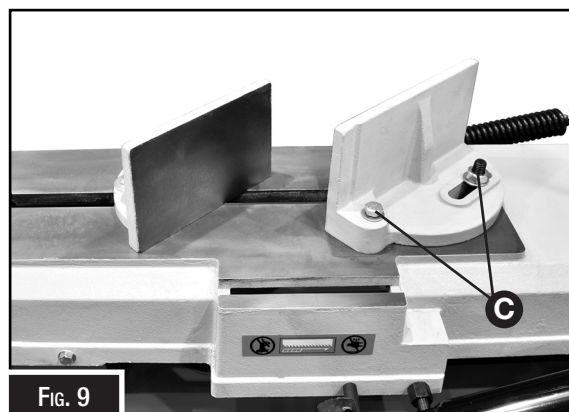

FIG. 9
2. Position vice and re-install as pictured in (Fig. 9). Pay particular attention to bolt hole location.